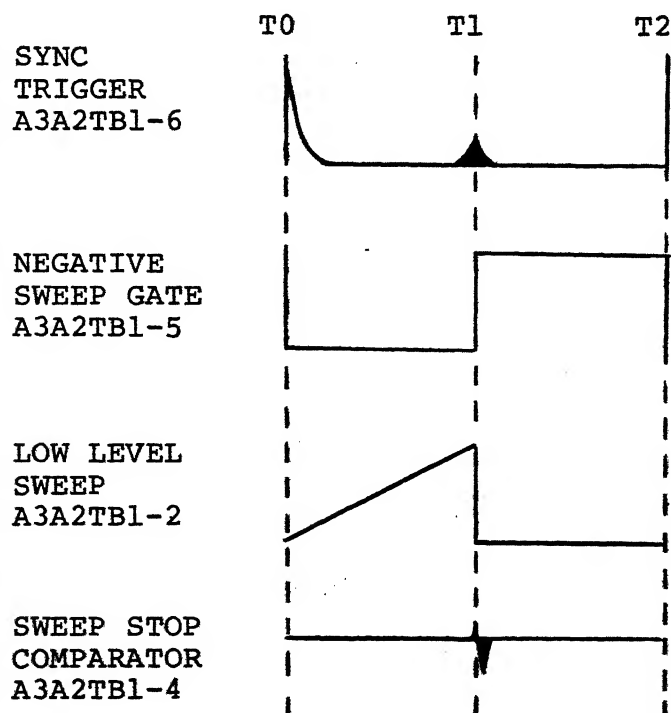

Figure 1
10. The function of integrated circuit U2 is to compare the sweep signal voltage at pin 3 to the threshold voltage at pin 2 and to produce a negative (low) output pulse when the sweep voltage goes slightly higher than the threshold voltage. This pulse is observed at U2, pin 7 or TB1-4 and is a very narrow negative spike. Refer to figure 1.